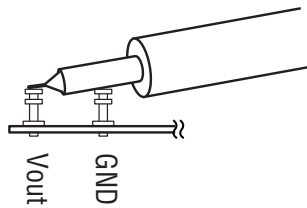

Figure 2. Scope Probe Position for Ripple Measurement
5. When measuring input or output ripple, see Figure 2 for proper scope probe technique.